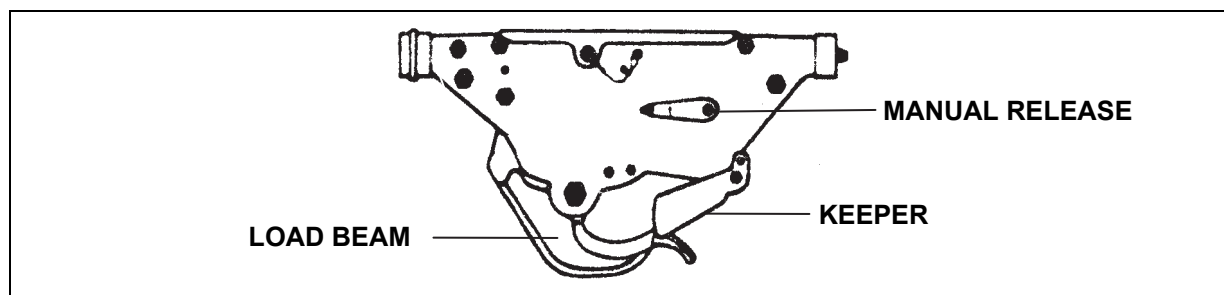

Figure 2-22. H-60 Cargo Hook System
- The Army UH-60A and USAF HH-60G cargo hook has a maximum load capacity of 8,000 pounds. The Army UH-60L cargo hook has a maximum load capacity of 9,000 pounds. The cargo hook load capacity of the Navy version, SH-60B, is 4,000 pounds. The cargo hook capacity of the Navy HH-60H and Coast Guard HH-60J is 6,000 pounds. The cargo hook (figure 2-22) is mounted in an opening in the floor of the aircraft just aft of the main rotor. The aircrew can open the hook electrically or manually. A manual release knob or lever is located on the right side of the cargo hook. In an emergency, the ground crewman or aircrew member can rotate the knob or lever counterclockwise and open the cargo hook.